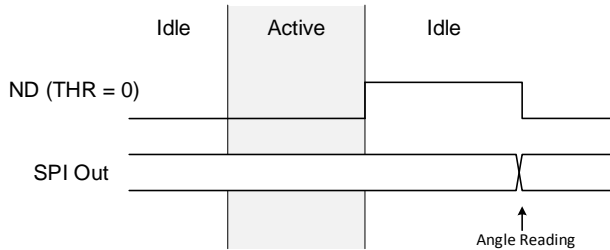
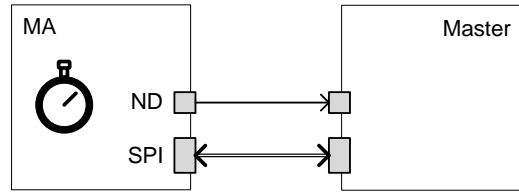

Figure 37: Using the ND Pin as a Flag for Data Updates (THR = 0)
Figure 38: Reading Both the SPI and ND
The new data (ND) signal has different use cases, depending on the value of the threshold parameter (THR). If THR = 0, this indicates the end of an active period. The ND signal rises after each active phase ends, and latches to indicate that a new value is available in the output buffer (see Figure 37).
Figure 37 shows the timing diagram of the ND pin when THR = 0. Figure 38 shows when the ND signal requests a simple connection.